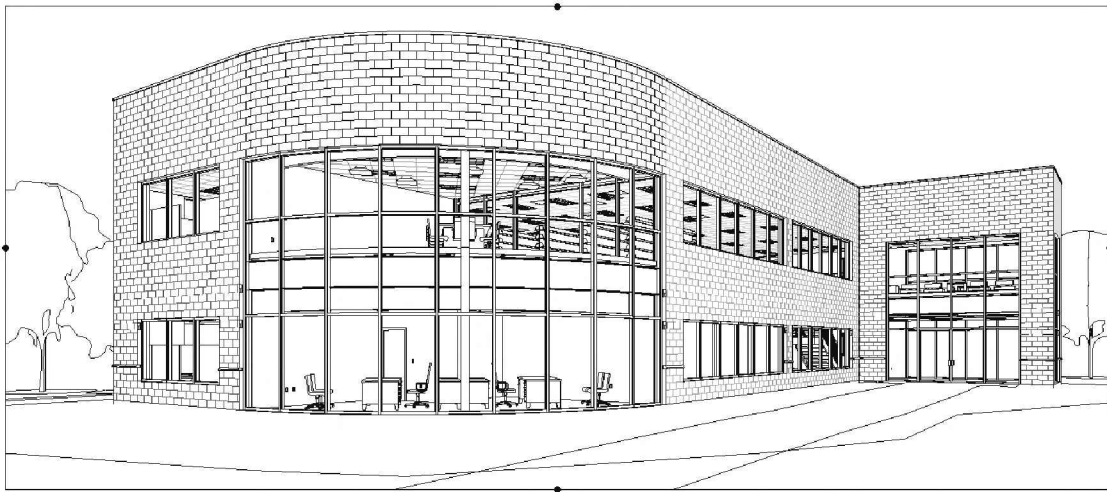

FIGURE 15-2.16 3D View 1 – with trees
40. Adjust the trees in the plan view, reviewing the effects in the **3D View 1** view, so your 3D view is similar to Figure 15-2.16.